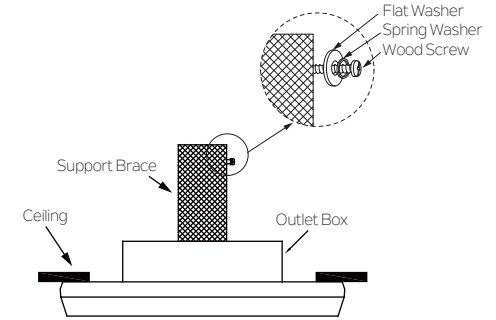

Fig. 11
Step 1. Slip the spring washer, then the flat washer onto the wood screw, then drive the wood screw into the side of the brace that holds the outlet box. Leave 3mm (1/8") of space between the support brace and the flat washer. (Fig.11)